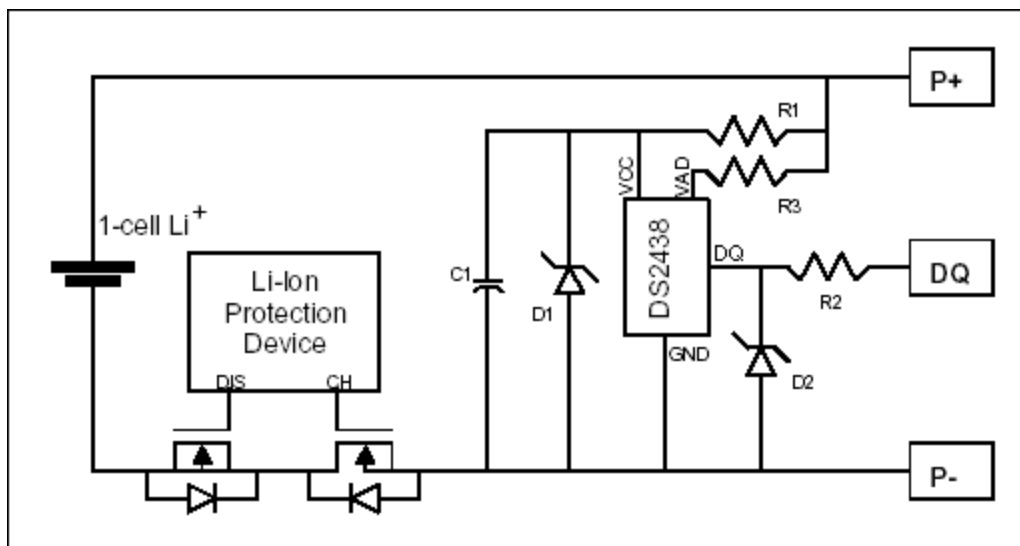

Figure 2. Recommended schematic for single-cell Li+ pack with low-side n-channel protection FETs.
Figure 2 below illustrates the recommended implementation of the DS2438 with respect to the low-side n-channel safety FETs. Additionally, Dallas recommends passive devices that primarily serve to protect the DS2438 from ESD damage. The protection offered by each device is described below:
2. The Zener diode D1 on  $V_{CC}$  serves two purposes. It clamps at the Zener voltage so that ESD and switching transients cannot damage the Dallas chip through  $V_{CC}$ . In the forward bias region, it clamps around 0.7 volts, thereby disallowing  $V_{CC}$  from falling more than 0.7 volts below GND, which is possible when both the CHarge and DIScharge FETs are high impedance. Choose a Zener voltage that is larger than the maximum cell(s) voltage for the application, but lower than the 10.0 volts rating of the DS2438. A Zener value between 5.1 volts and 10.0 volts would be ideal for the circuit in Figure 2.